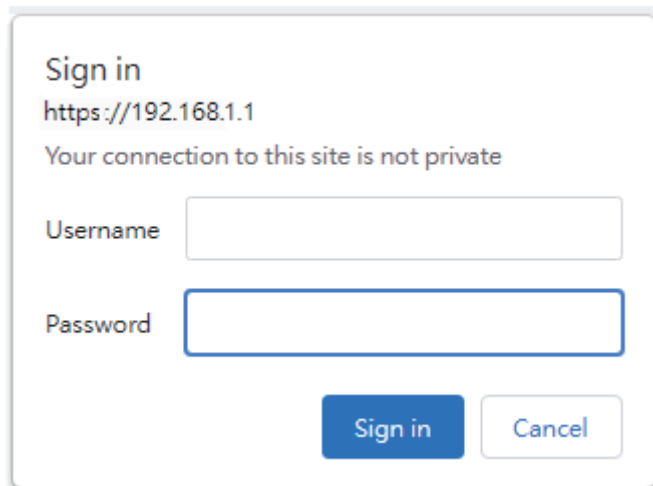

Figure 4-2: Login Screen
- 2a. When the following dialog box appears, please enter the default user name "**admin**" and password "**admin**" (or the password you have changed before) **as shown in Figure 4-2.**